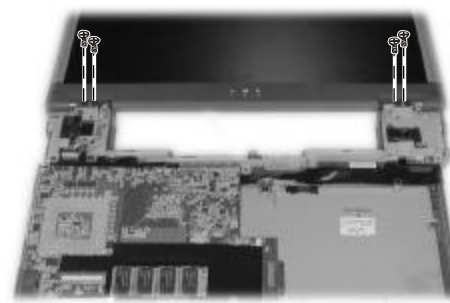

Figure 2-24 Remove four screws
9. Remove four screws. (Figure 2-24)